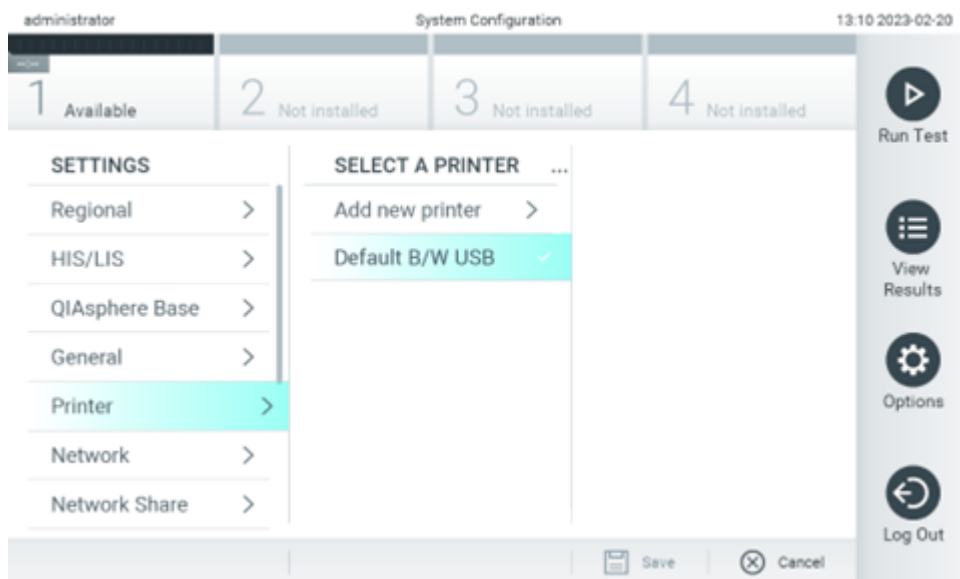

Figure 66. Selecting a system printer.
3. Select a printer from the list of available printers (Figure 66).